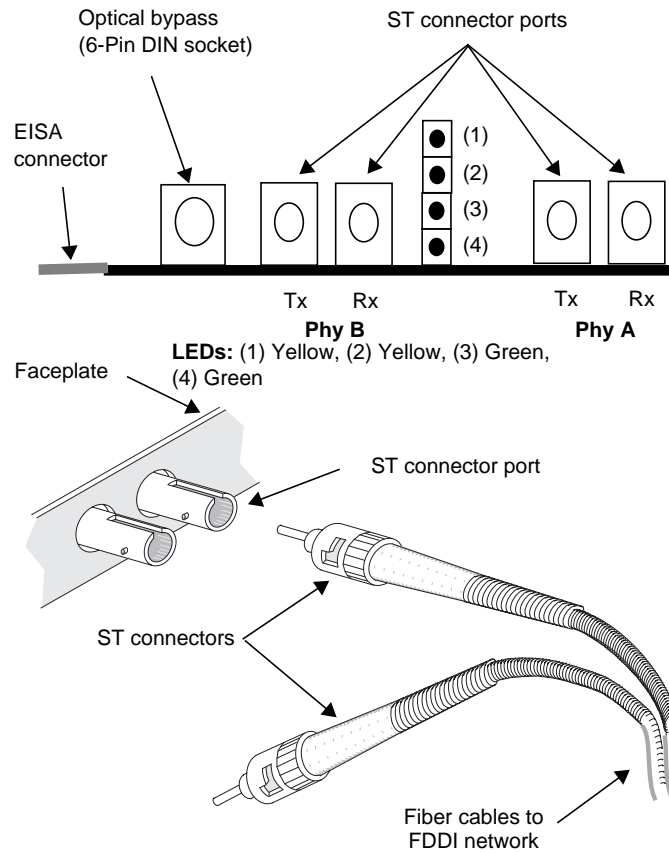

Figure 2-8. DAS ST Fiber Connections
- For ST connections, see Figure 2-8 on page 21.